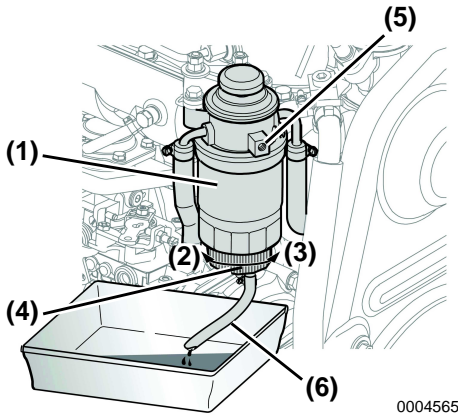

Figure 11
3. Attach a tube (Figure 11, (6)) to the drain plug (Figure 11, (4)).
4. Loosen the drain plug (Figure 11, (4)) at the bottom of the fuel filter / water separator by turning counterclockwise and drain off any water or sediment.